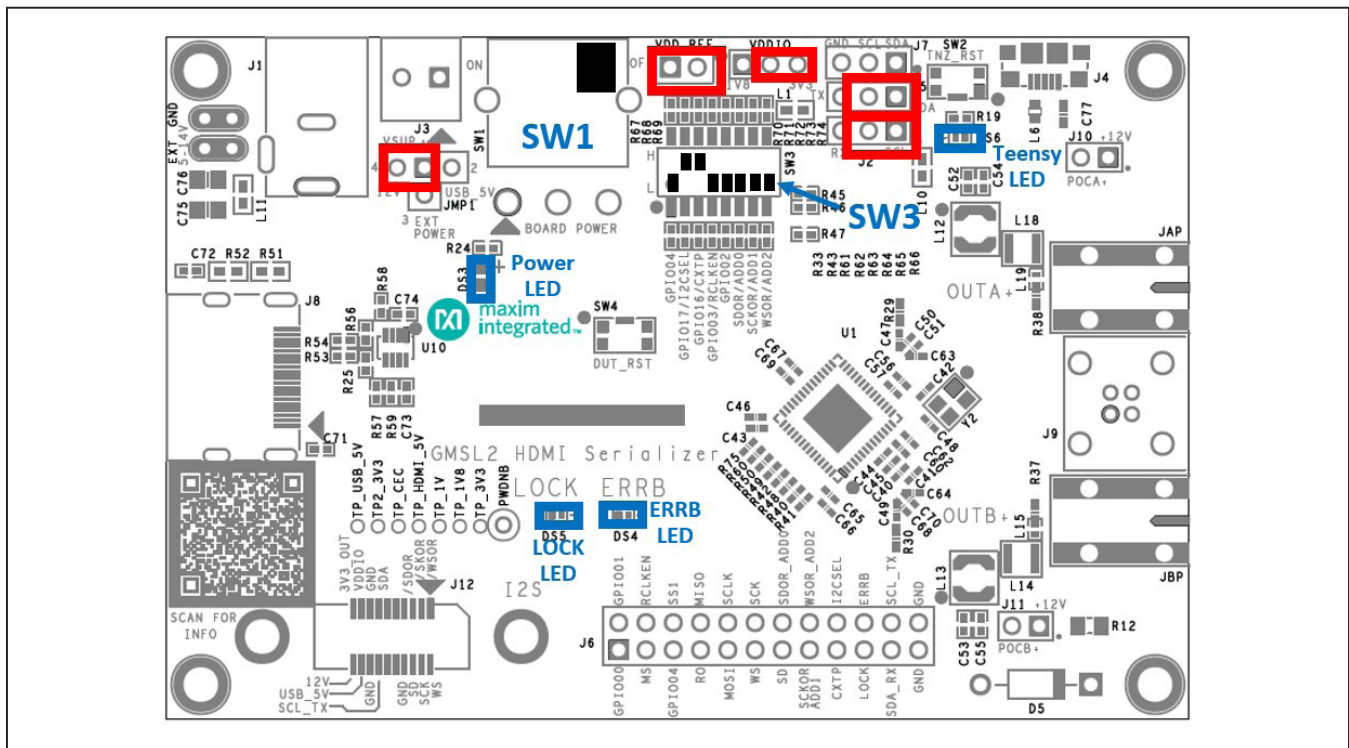

Figure 3. Serializer Evaluation Board Default Jumper
- 2) Verify that the on-board jumpers on the deserializer board are in their default positions (Figure 3) with SW1 off.
- 3) Configure SW3 as shown in Figure 3 to set serializer address to 0x80, coax mode, and I2C control.